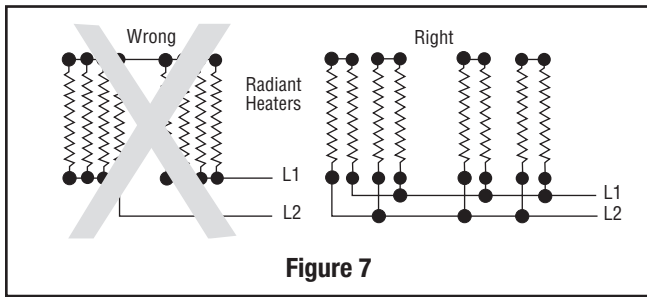

Figure 7
8. **SERIES CONNECTION** of Radiant Heaters of equal volt and watt rating is permitted in all line voltages up to 600 volts. In making such series connections it is necessary to observe the "right" (series-parallel) connection rather than the "wrong" (parallel series) connection both shown in Figure 7. If heaters are connected according to the "wrong" illustration, failure of any heater will cause progressive failure of other heaters still operating.